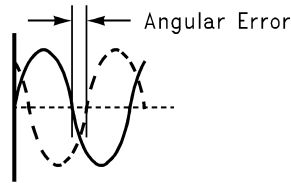

Figure 19. Angular Errors Between the Two Input Signals Will Reduce the Output Level or Cause Distortion
- dev is the angular difference in degrees between the two signals having a 180° relative phase relationship to each other (see Figure 19) (11)